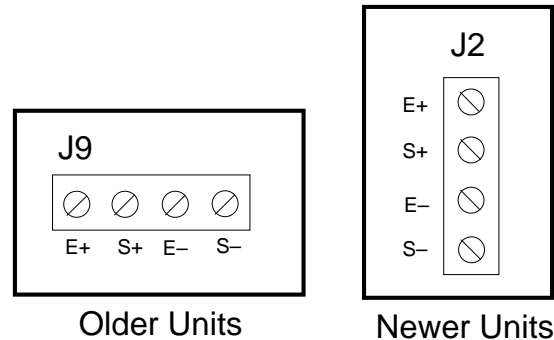

Figure 2-6: Connection assignments for the Load Cell Terminal
1. Connect your shielded load cell cable (not included) to the appropriate terminal on the main board. Connection assignments for the Load Cell Terminals are shown in Figure 2-6.